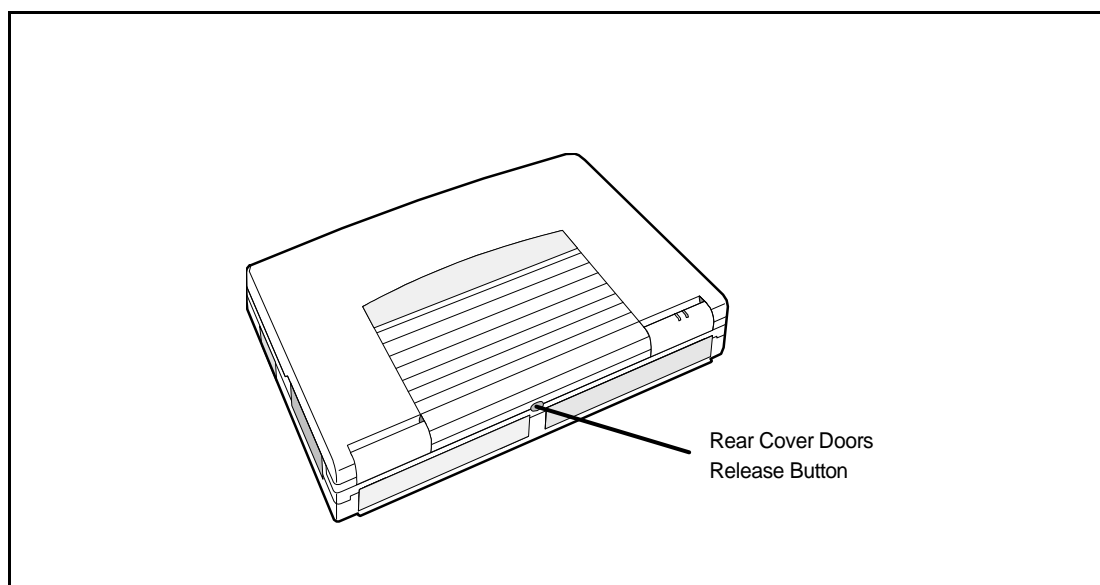

Figure 2-7 Opening the Notebook Connector Covers
4. Press the rear connector door release button on the rear of the notebook as shown in Figure 2-7.